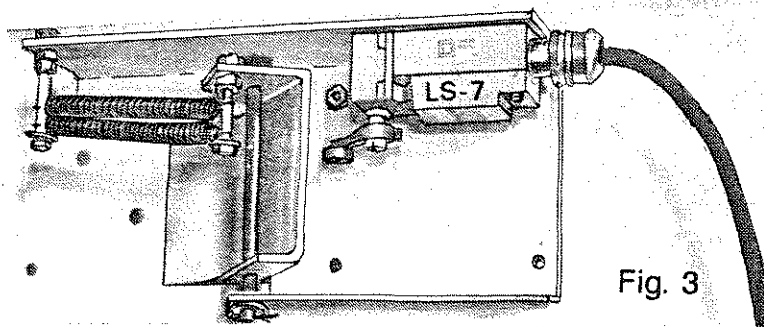

Fig. 3
4. Attach the bed tilt switch LS-7 assembly to the right rear bale deck side plate using the following: two F278 springs, one OPR23922 bed tilt switch operator, one SPC23886 tilt switch operator spacer, one SPC23885 tilt switch operator spacer, one PIN23871 bed tilt switch pivot pin, two 1/8" X 1" cotter pins, one MNT23921 bed tilt switch and operator mount, switch LS-7 with short roller arm, four 5/16"-18 UNC X 3/4" socket head screws, four 5/16"-18 UNC hex nuts, and four 5/16" spring lock washers. Attach this assembly using four 1/4"-20 UNC X 3/4" socket head screws, and four 1/4"-20 whiz nuts. See Fig. 3 and page eight in the parts section.